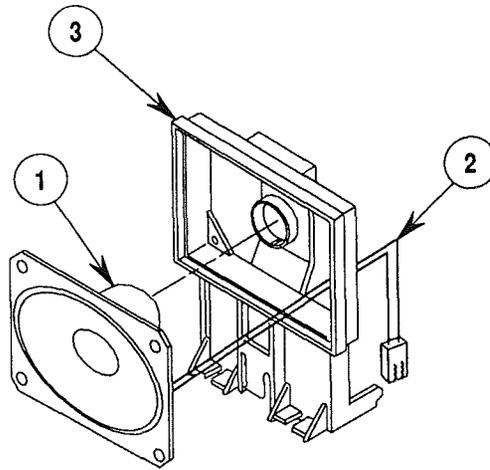

FIGURE 4
1. Line up the rear part (Figure 4, #1) of the speaker (the round metal part that sticks out on the back of the speaker) with the round hole in the speaker bracket.
2. Make sure that the two wires (Figure 4, #2) from the speaker are protruding through one of the two openings on either side of the round hole on the bracket.
3. Gently push the round metal part of the speaker into the round hole on the bracket until it stops going in and the rectangular front part of the speaker is embedded in the rectangular frame of the bracket (Figure 4, #3).